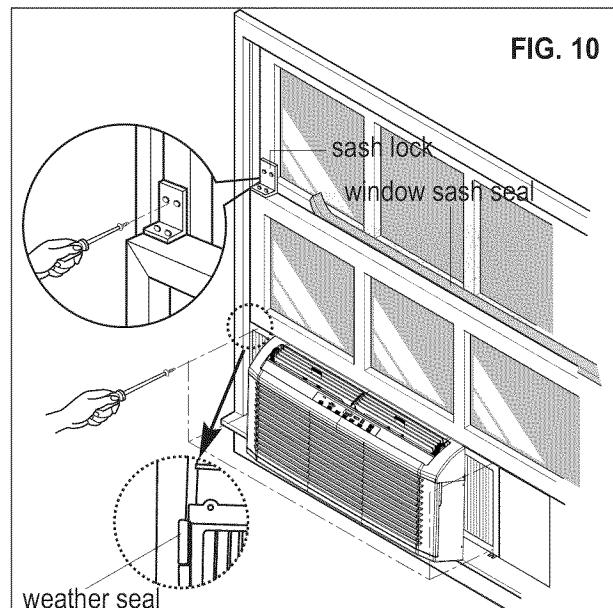

FIG. 10
Expand the filler panels and secure them using 4 screws as shown in FIG.10. When filler panels opens or closes, you may feel a slight resistance. This is normal.
- \* Cut the window sash seal to the window width. Stuff the window sash seal between the glass and the window to prevent air and insect from getting into the room, as shown in FIG.10.
- \* Trim the weather seal ( $6'' \times 3\frac{3}{4}'' \times 1\frac{1}{12}''$ ) to a proper length, peel off the protective backing and plug any gaps if needed as shown FIG.10.
- \* Install the sash lock bracket to prevent window from being raised which may result in unit falling, as shown in FIG.10.